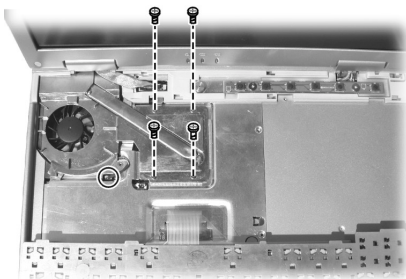

Figure 2-5
2. Remove four screws fastening the heatsink and disconnect the fan's power cord to free the heatsink from the CPU module. (Figure 2-5)